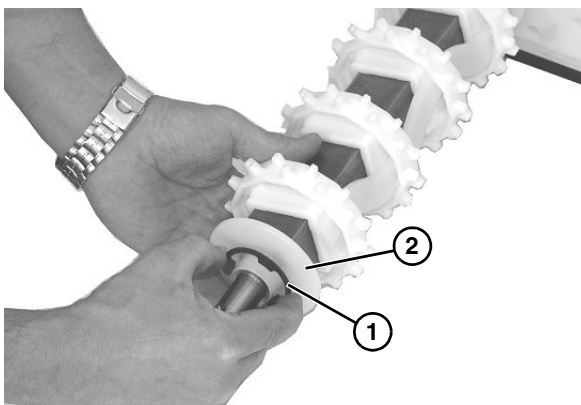

Figure 36
10. Remove retaining clip (**Figure 36, item 1**) and flanged puck (**Figure 36, item 2**) from drive spindle.